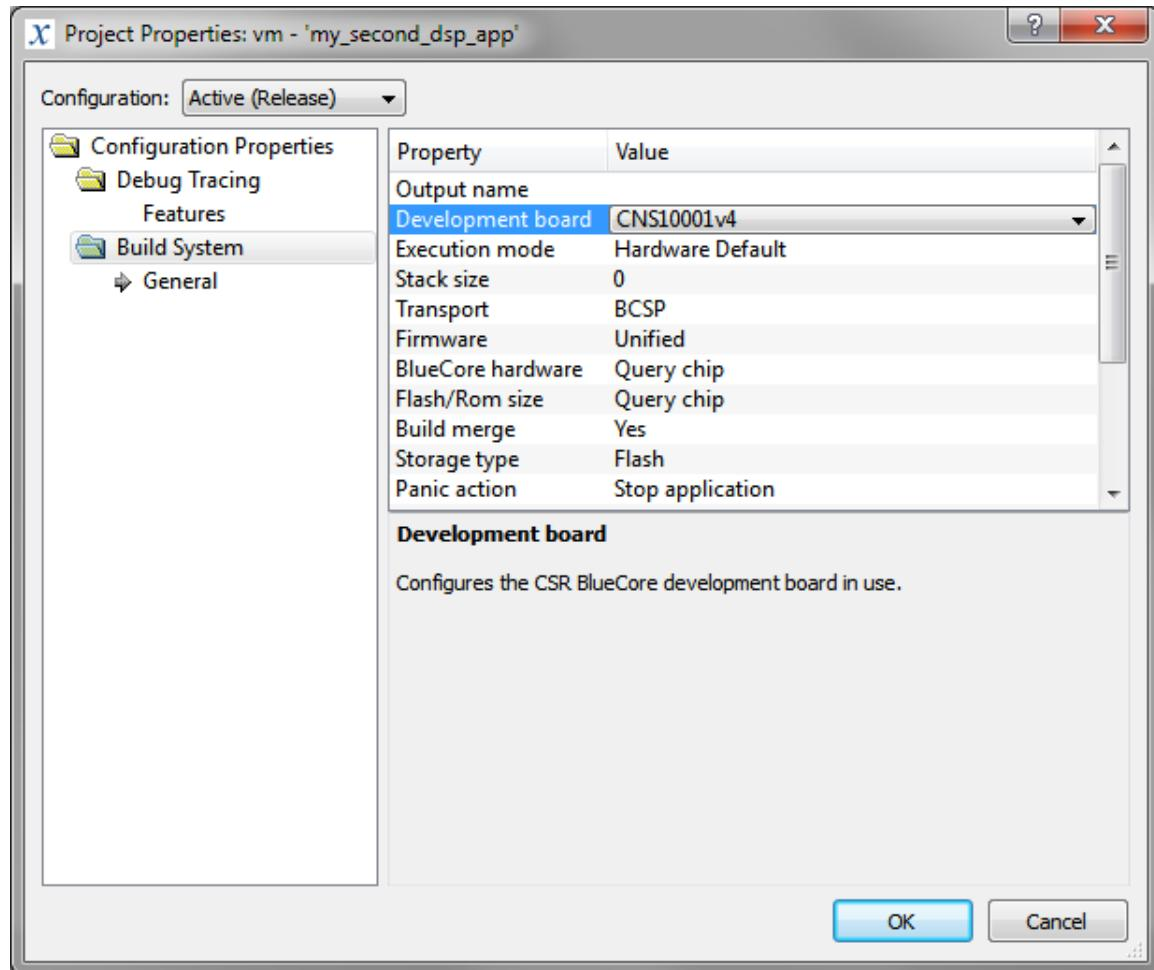

Figure 2-5 Project Properties: VM - my_second_DSP_app
| Figure 2-5: Project Properties: VM - my_second_dsp_app..... | 11 |
9. Check that the development board you are using is configured correctly in the project settings. To do this, right-click **vm - 'my_second_DSP_app'** and select **Properties... | Build System**, as shown in Figure 2-5.